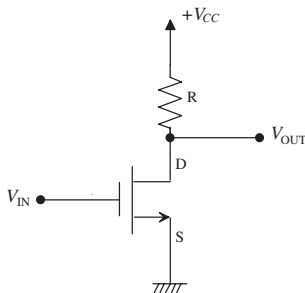

FIGURE 1.16 A typical nMOS inverter.
**Operation of the nMOS transistor as an inverter** Figure 1.16 shows an nMOS inverter. When  $V_{IN} = \text{LOW}$ , the resistance between the drain and the source ( $R_{DS}$ ) is very high, and no current flows from  $V_{CC}$  to the ground.  $V_{OUT}$  is therefore high. On the other hand, when  $V_{IN} = \text{high}$ ,  $R_{DS}$  is very low, a current flows from  $V_{CC}$  to the source, and  $V_{OUT}$  is LOW. Therefore, the circuit acts as an inverter.